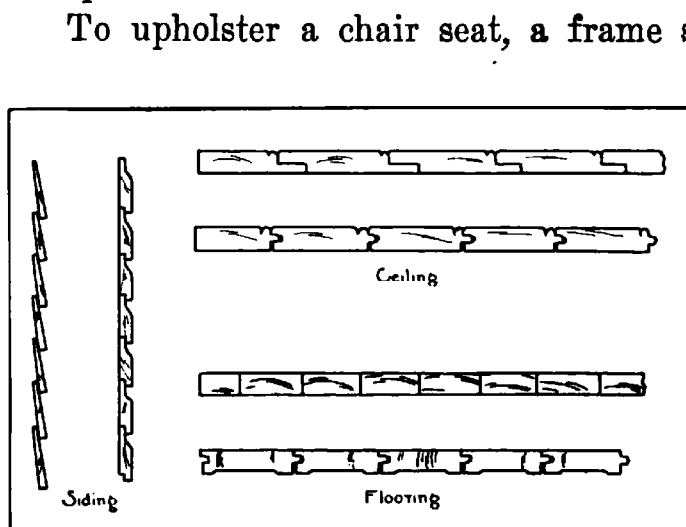

Fig. 301. Siding, Ceiling, Flooring.
13. FLOORING, (See also Fig. 301.)
- In flooring, Fig. 301, the boards are made narrow so as to reduce the size of openings at the joints when they shrink, and also to reduce the tendency to warp. They may be laid side by side as in the cheapest floors, or matched to close the joint. For difference between slash- and comb-grain flooring, see Fig 55, p. 43.
15. SIDING OR CLAPBOARDS, (See Fig. 301,) may either overlap without a joint or be rabbeted to fit. The best siding is rabbeted.
21. CEILING, Fig. 301, consists of matched boards having a "bead" to disguise the joint and give a decorative effect.
In matched flooring, the underside of the boards is slightly narrower than the upper side so that the joint may close on the upper side without fail, Fig. 301, p. 199. The ends of flooring boards are also slightly beveled so as to make a tight fit on the upper side.